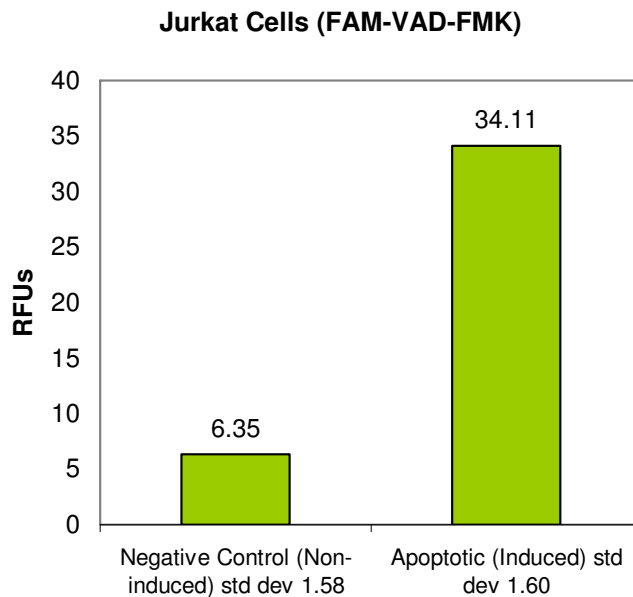

Figure 1. FAM-VAD-FMK fluorometric detection of active caspases in Jurkat cells (mean n=6).
4. An example of differential fluorescence intensities in induced versus non-induced Jurkat cells is shown in Figure 1.
In Figure 1, cells were either treated with DMSO (negative, non-induced cells) or with staurosporine (apoptotic, induced cells) for 2 hours at 37°C. Cells were labeled with FAM-VAD-FMK for 60 minutes at 37°C. Samples were read on a 96-well fluorescence plate reader (Molecular Devices, Gemini XS) set at 490 nm excitation and 520 nm emission using a 495 nm cut-off filter. As caspases became more active, indicating apoptosis, the amount of green fluorescence increased by over 500% in the induced Jurkat cells.